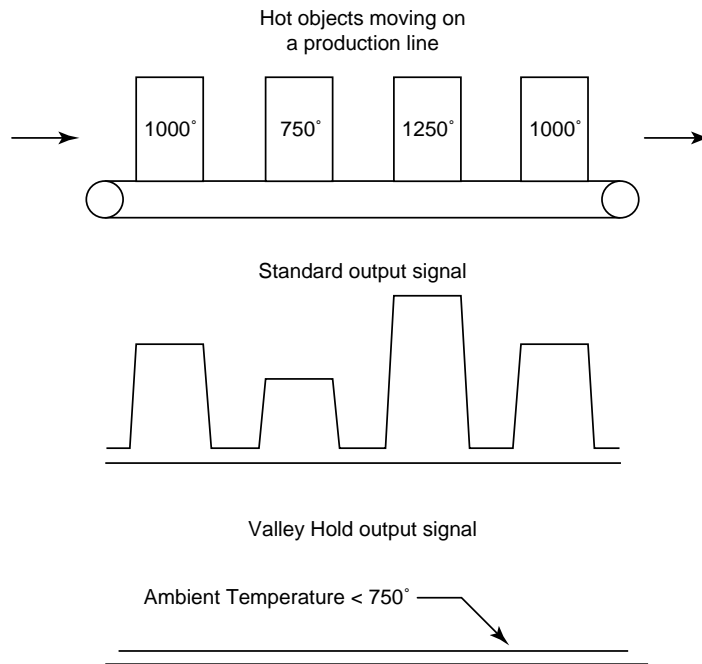

Figure 3-30: Valley Hold Example
With Valley Hold activated, the unit monitors the minimum temperature seen over the pretermined time interval. The algorithm may be described as being exactly the reverse of that for the Peak Hold, in that it monitors the lowest rather than the highest temperature seen. The duration time is changed by the ▲ (UP) and ▼ (DOWN) buttons. Figure 3-30 illustrates the Valley Hold output signal.